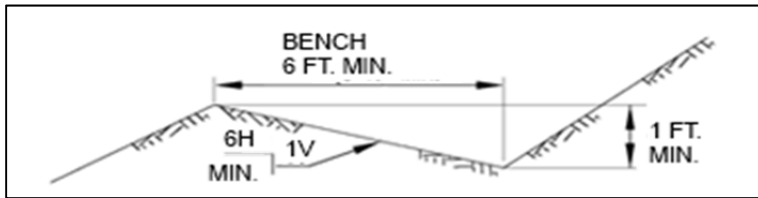

Figure 39: Bench
- Benches should be constructed to the minimum dimensions shown in **Figure 39**, with a maximum vertical spacing as indicated in **Table 17** below.